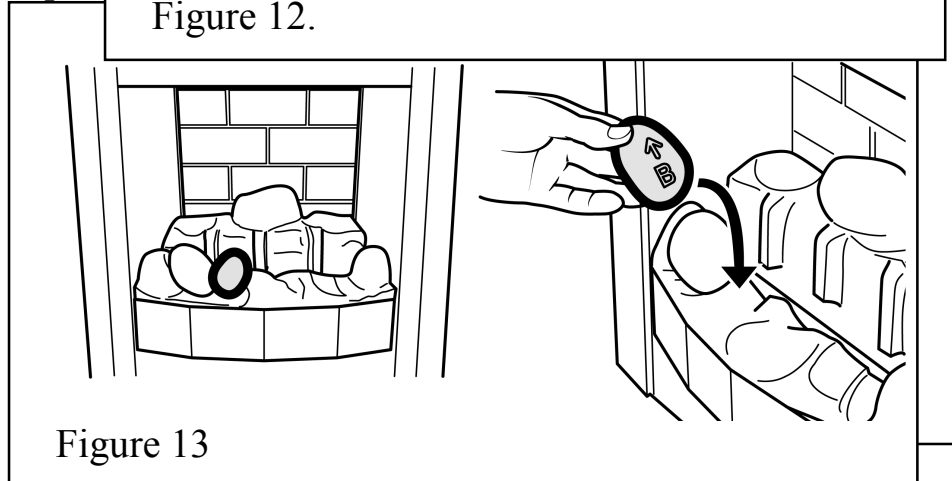

Figure 13
4. Hold pebble 'B' upright with the arrow pointing to the top. Place pebble "B" on top of the front base pebble. (See figure 13).